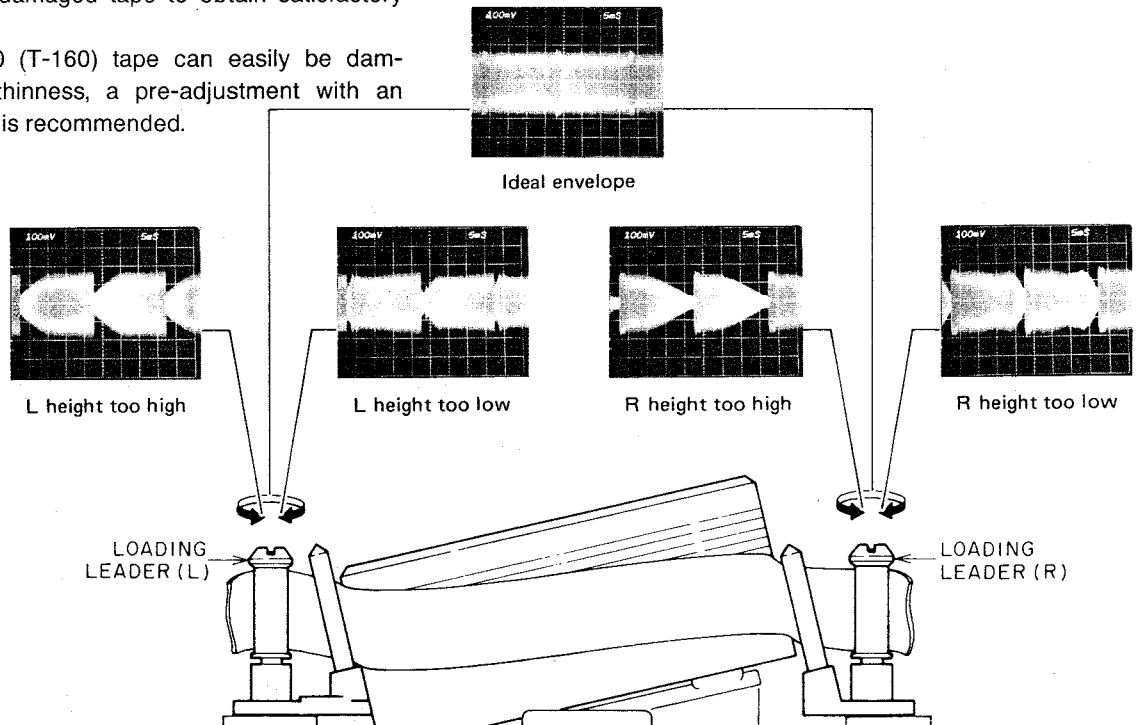

Fig. 4-12
- 4) Turn the LOADING LEADER heads with a flat head (—) screw driver to obtain flat RF envelope as ideal envelope as shown in Fig. 4-12.